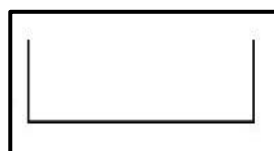

FIGURE 11.3.1
11.3 Identify the hydraulic symbols in FIGURES 11.3.1 and 11.3.2 below.